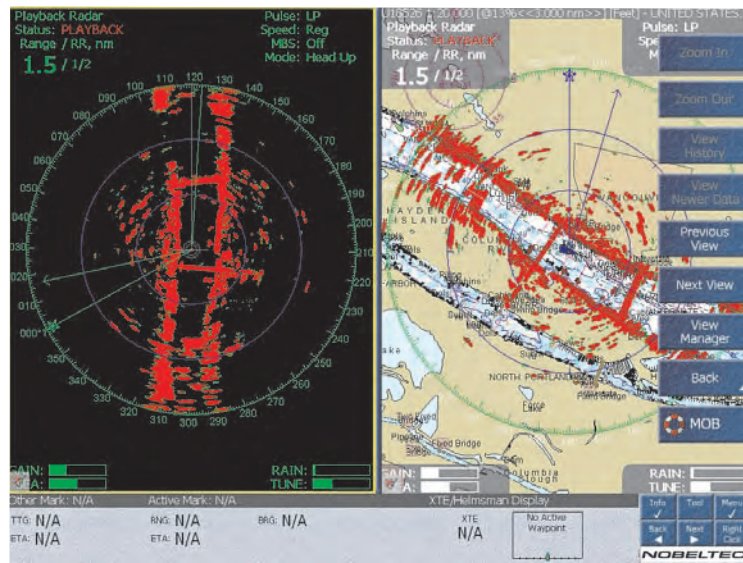

Figure 21.3 - Radar Overlay in Nobeltec Navigation Software
The InSight Radar window pane (see Figure 21.3) is used to view radar images within Nobeltec Navigation Software. This window pane can be resized and moved in PlanView mode and laid out in various configurations using the View Manager in NavView. The InSight Radar window pane contains a broad array of radar-specific features and controls.
- a. Click on the **InSight Radar Window Pane** ToolBar button. If your radar unit (and IR2-BB if applicable) is turned on and properly connected to the computer, the InSight Radar window pane automatically displays a radar image similar to that in Figure 21.3.